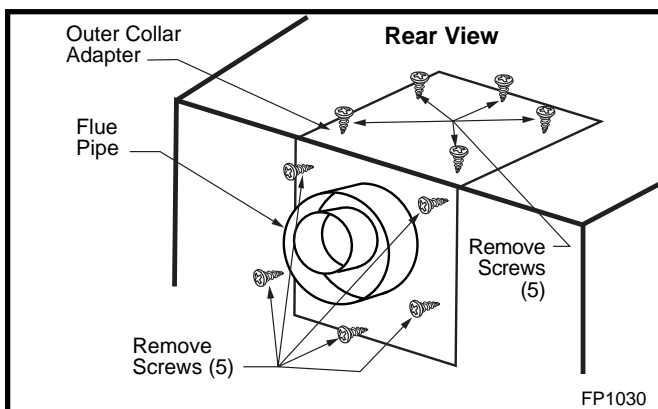

Fig. 11 Remove screws from outer collar adapter.
1. Remove the ten (10) screws securing the outer collar adapter to the fireplace body. (Fig. 11)